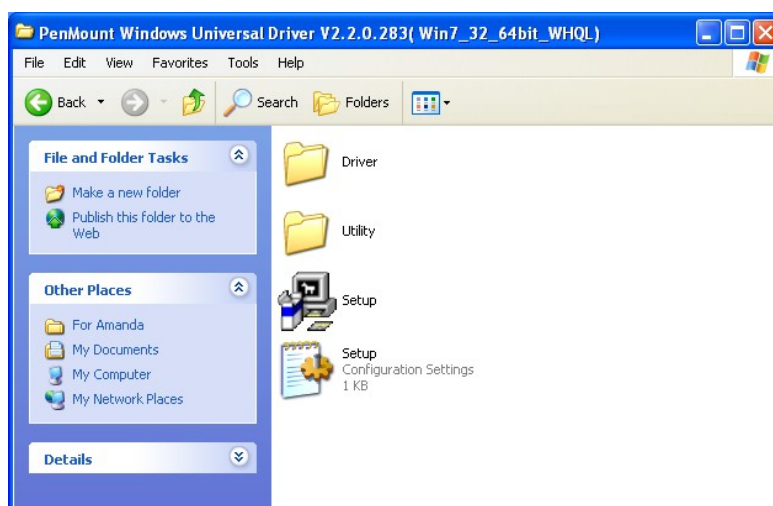

Figure 7-1: Setup Icon
- Step 3:** Select the **Touch Screen** option in the menu of driver CD. The directory in **Figure 7-1** appears.
Step 4: Double click the setup icon in **Figure 7-1**.